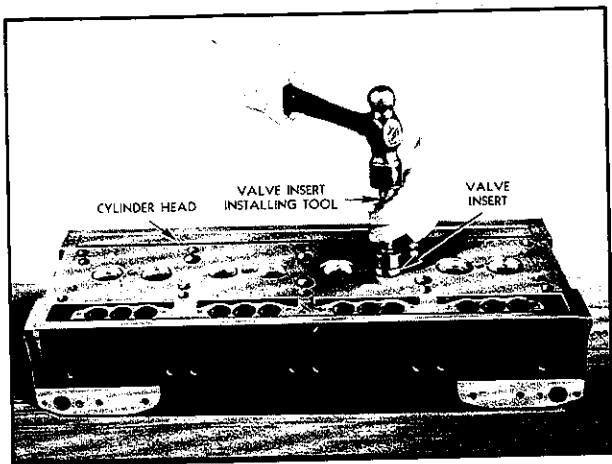

Fig. 8—Driving Valve Seat Insert into Cylinder Head.
4. Using Tool J-1736, shown in Fig. 8, insert pilot end of drive into valve guide and drive insert down tight into counterbore.